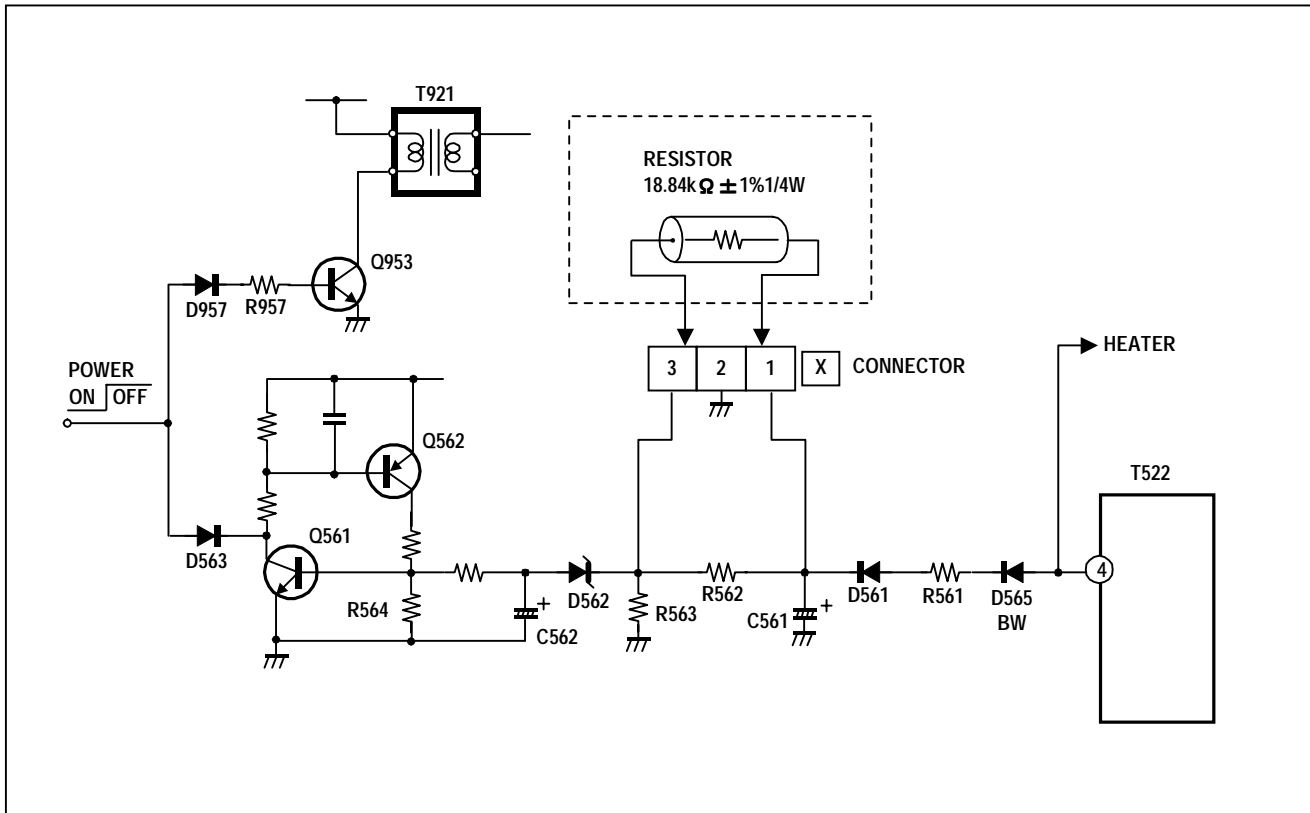

Fig. 1
After repairing the high voltage hold down circuit shown in Fig. 1.
- (1) Turn the power switch to on.
- (2) As shown in Fig. 1, set the resistor between X connector 1 and 3 .
- (3) Make sure that the screen picture disappears.
- (4) Temporarily unplug the power plug.
- (5) Remove the resistor replaced X connector 1 and 3 .
- (6) Again plug the power plug, make sure that the normal picture is displayed on the screen.